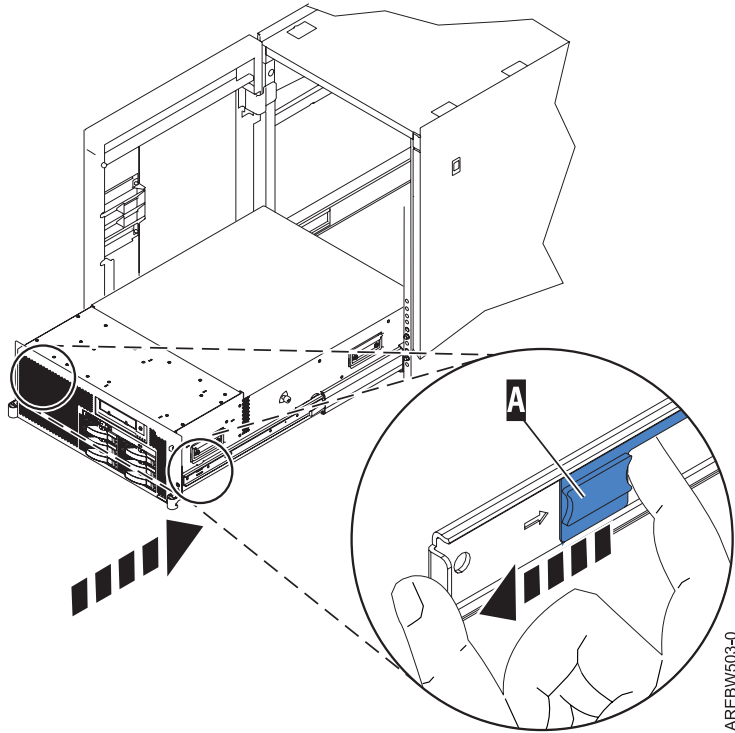

Figure 34. Inner rail extended
10. After the system is firmly in place, simultaneously press the safety latches and push the system unit into the rack as shown in Figure 34 on page 42.